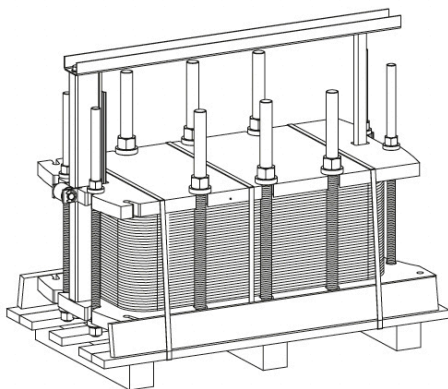

Fig. 1a
- Follow the rigging instructions (Figures 1a, 1b and 2).